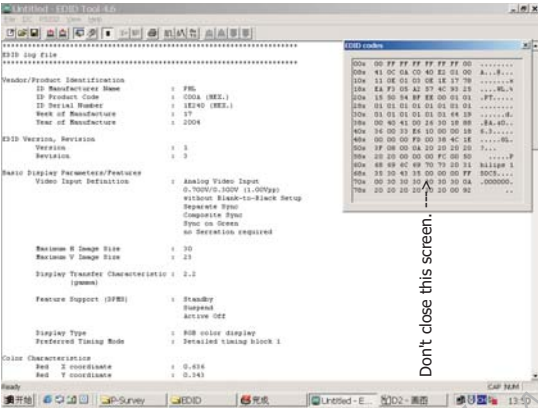

Fig. 12
4. Click icon (Read EDID function) to read DDC EDID data from monitor. The EDID codes will display on screen as shown in Fig. 12.